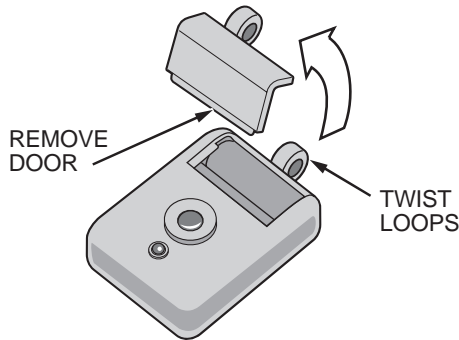

Figure 1. Removing Battery Door
Step 1: Twist the key chain loops and remove the battery door (see Figure 1).